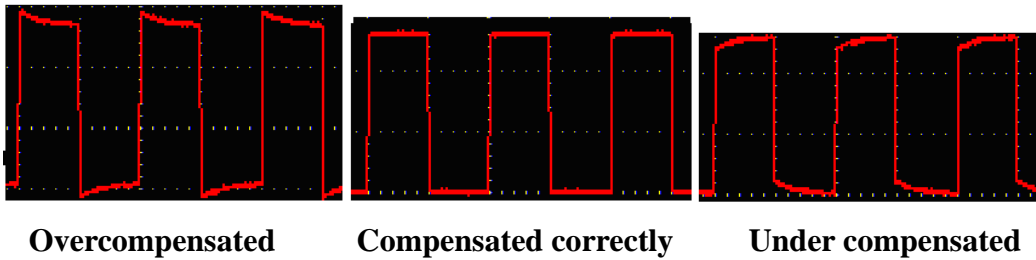
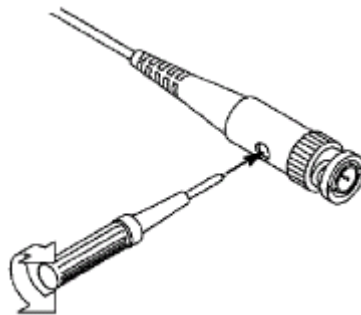

Figure 7-2 Displayed Waveforms of the Probe Compensation
Figure 7-3 Adjust Probe
2. Check the displayed waveforms and regulate the probe till a correct compensation is achieved (see *Figure 7-2* and *Figure 7-3*).